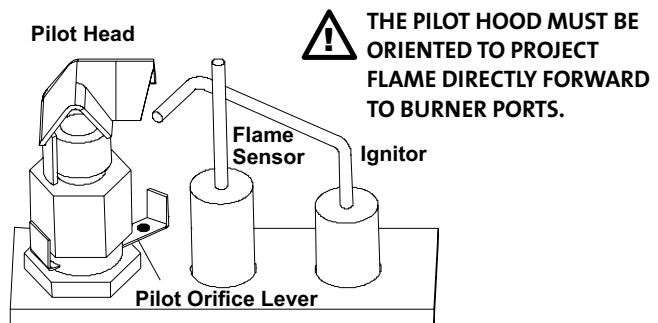

Figure 5. Pilot Conversion to Propane.
6. **CHANGE THE INTEGRATED DUAL-FUEL PILOT ORIFICE:** Use the 7/16" wrench to loosen the pilot head just enough to push the orifice lever to the appropriate position. See fig. 5.
Pilot flame can be adjusted at the valve screw (fig. 5) to engulf the flame rectifier and extend over the burner ignition ports (fig.7).